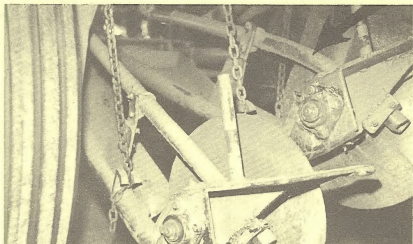

Figure 8. New seed tube attached
1. Replace original seed tube assembly - Part No. RM4-02-01 with plain seed tube - Part No. RM2-041-A. This seed tube is installed over the disc opener shaft instead of under the shaft as the original seed tube is mounted. This is accomplished by using two extension brackets to which the seed tube is attached by two muffler clamps. Figure 8.